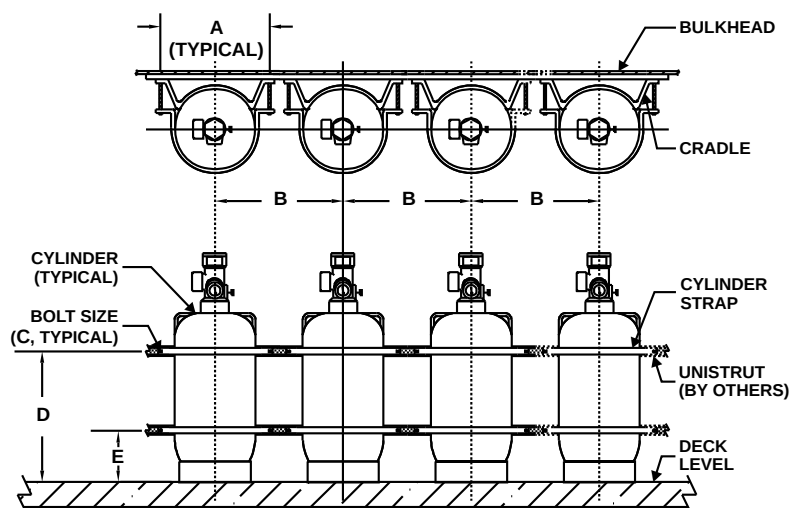

Figure 4-6. Typical Cylinder Installation, Vertical Mounting
1. Position the Kidde Engineered System cylinder in designated position, and secure in place with the cylinder mounting straps and associated hardware. For cylinders of 125 lb. capacity and above, a cradle is used to support between the cylinder and the unistrut or bulkhead. See Figure 4-6 and Tables 4-3 and 4-4 for the relevant installation dimensions. Ensure the valve outlet is correctly orientated for connection to the system pipework.
1. Position the Kidde Engineered System cylinders in the designated positions, and secure in place with cylinder mounting straps and associated hardware. For cylinders of 125 lb. capacity and above, a cradle is used to support between the cylinder and the unistrut or bulkhead. See Figure 4-6 and Tables 4-3 and 4-4 for the relevant installation dimensions. Orient the cylinders so that the valve outlets are angled towards the EI-check valves in the manifold.